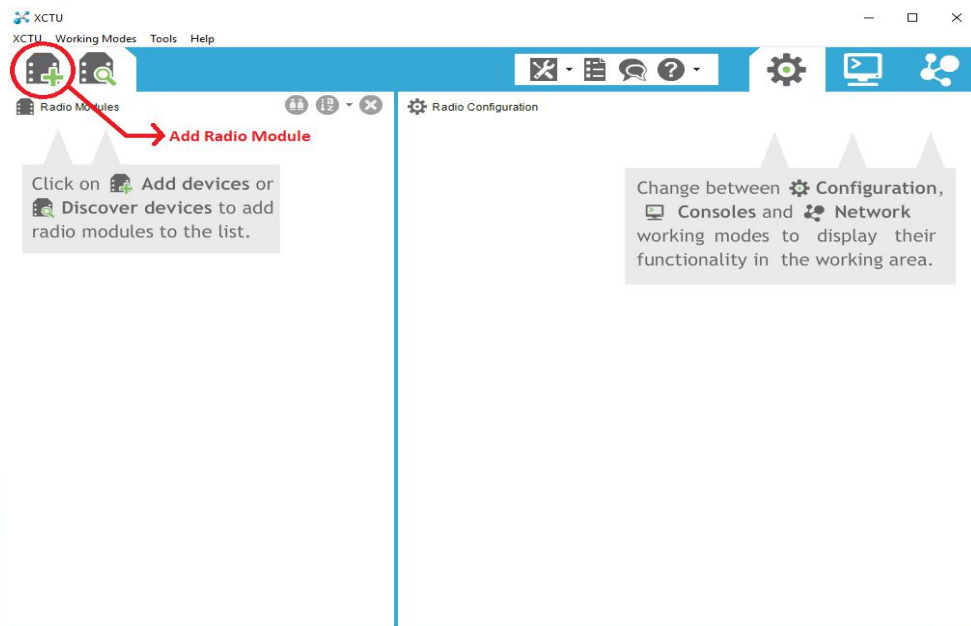

Figure 7: XCTU Software
5. **Launching the X-CTU Software** - After you have downloaded the software, launch it by clicking on the Desktop icon. You should see the window as given in Figure 7. Click on the **Add Radio Module** button. The **Add Radio Device** window will open.